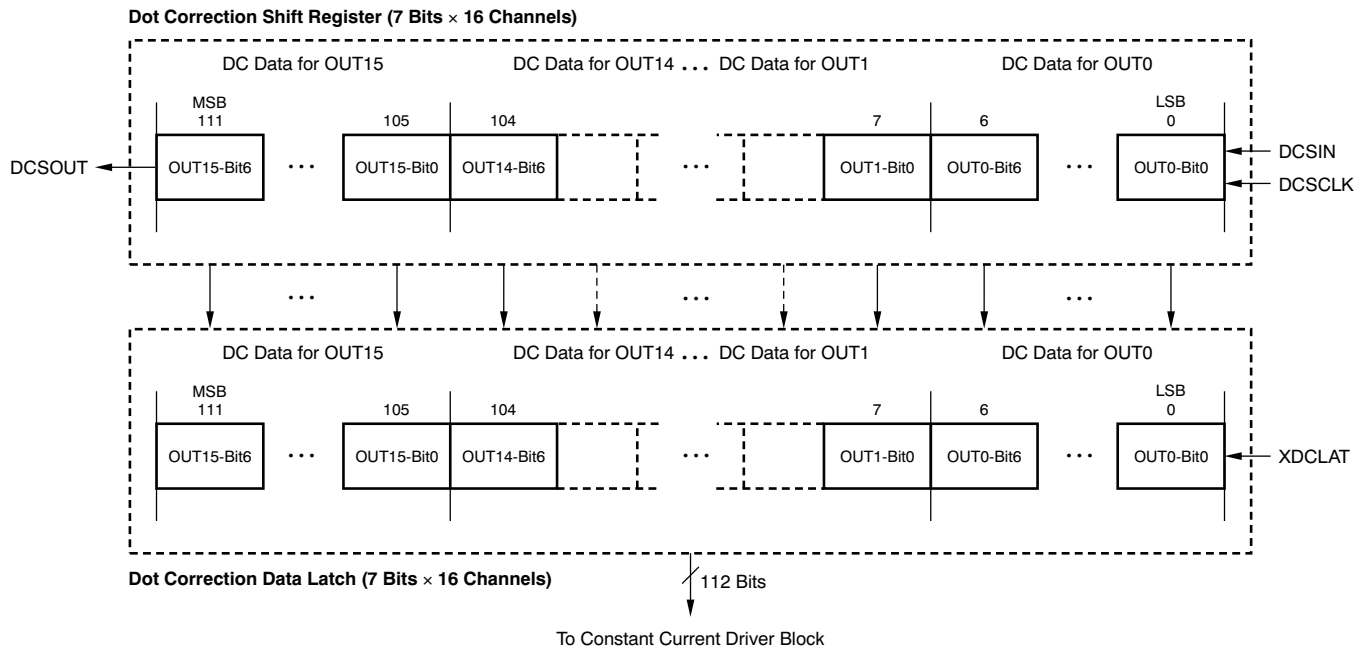

Figure 23. Dot Correction Shift Register and Latch Configuration
The Dot Correction (DC) Shift Registers and latches are each 112 bits in length and are used to individually adjust the constant current values for each constant current driver. Each channel can be adjusted from 0% to 100% of the maximum LED current with 7-bit resolution. Table 2 describes the percentage of the maximum current for each dot correction data. See Figure 23 for the Dot Correction Shift Register and data latch configuration. Figure 10 illustrates the timing chart for writing data into the DC Shift Registers and latches. Each channel LED current is dot-corrected by the percentage corresponding to the data in its DC data latch. DC data present on the DCSIN pin are clocked into the DC Shift Register with each rising edge of the DCCLK pin. Data are shifted in MSB first. The data are latched from the shift register into the DC data latch with a rising edge on the XDCLAT pin.